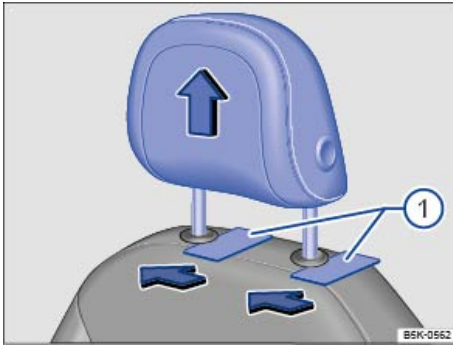

Fig. 41 Removing the front head restraints.
- Slide a flat object, such as a plastic credit card, underneath the right side of the cap (left side if sitting behind the head restraint) on the right-hand seat guide rod ⇒ fig. 41 \(1\) to unlock the head restraint.